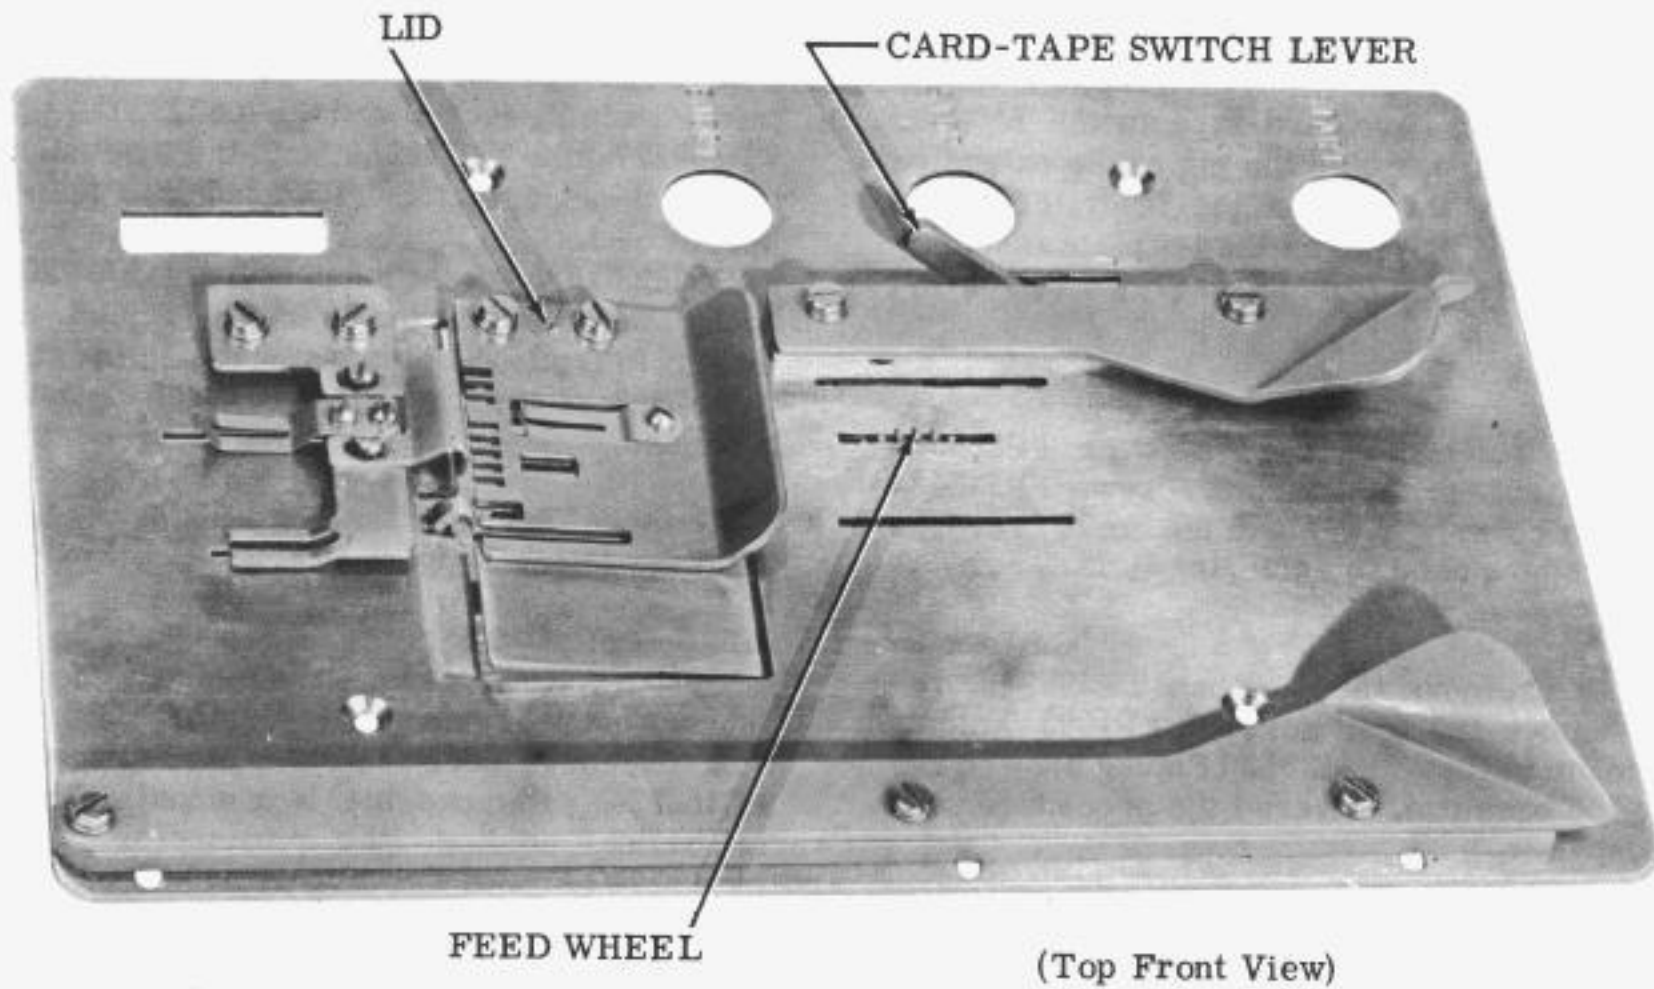
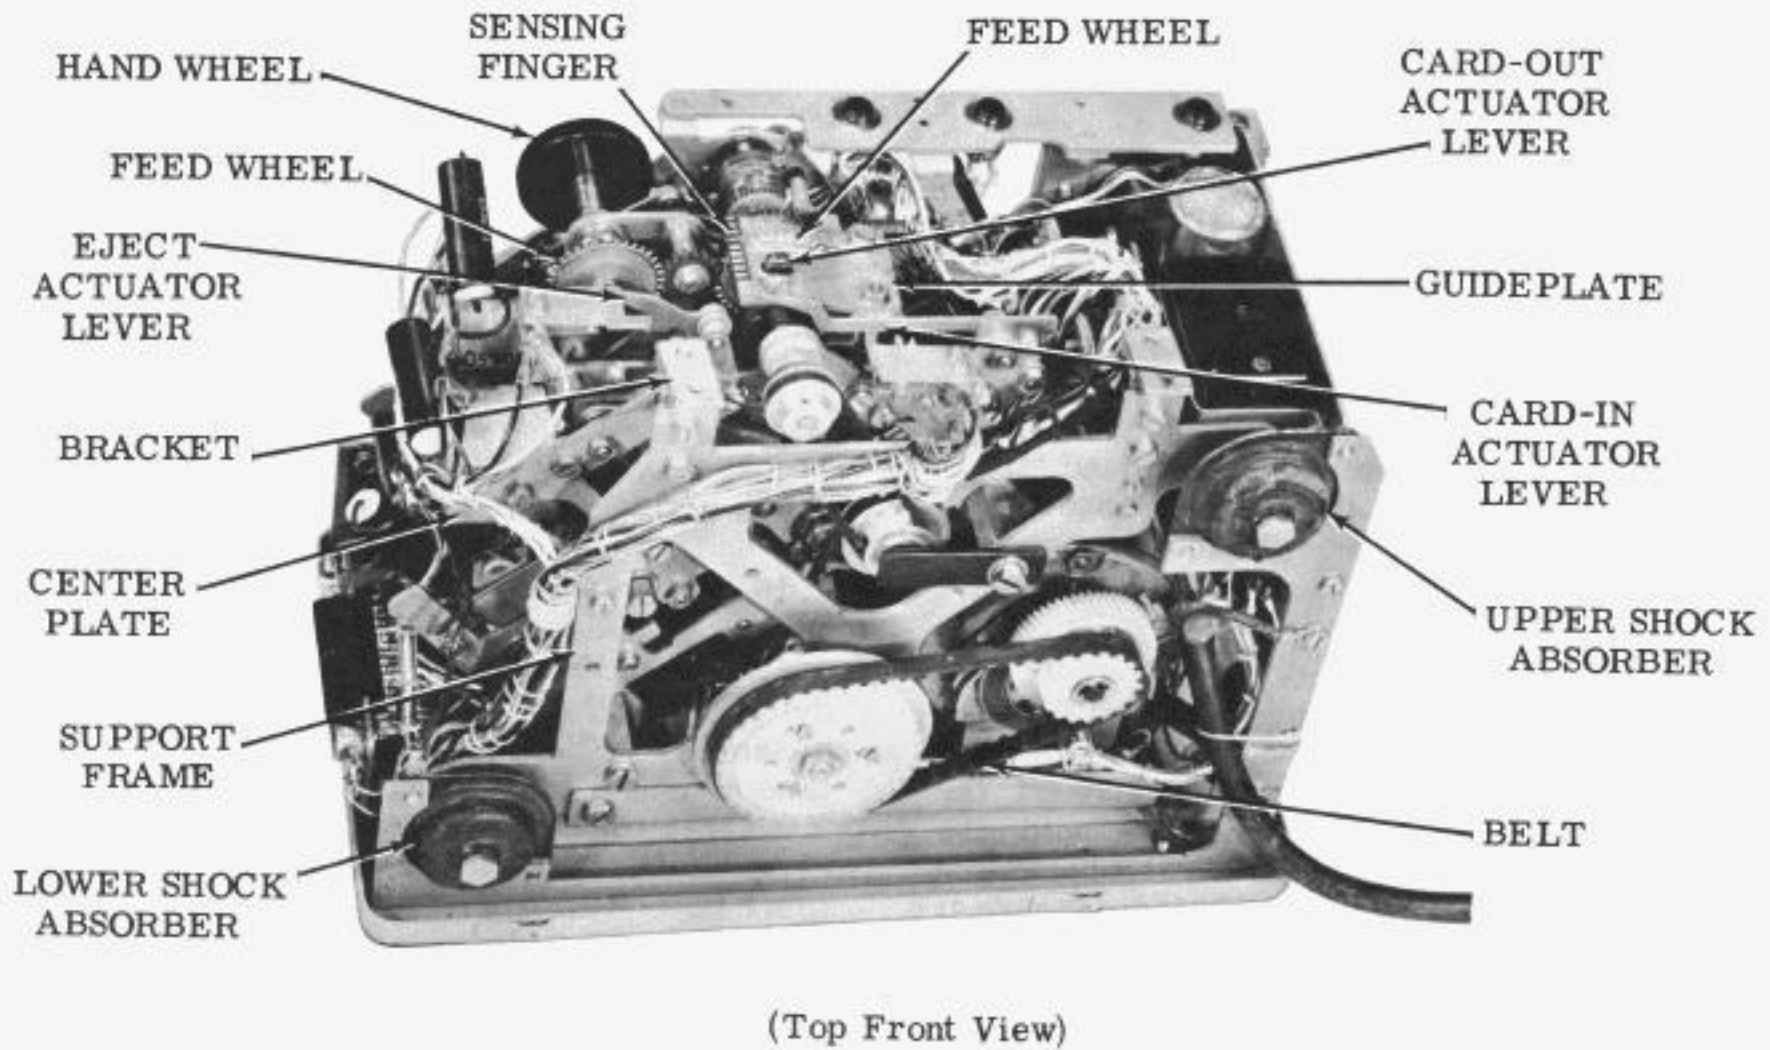

Figure 3 - Top Plate Assembly
Figure 4 - 35 Edge Punched Card Reader without Top Plate and Cover
move the top plate assembly. To replace the top plate assembly, have card-tape switch lever in the card position, guide the pin of the extension TP305069 into the slot of the lever TP305250 (Figures 3 and 5). Lower the topplate assembly into place and replace the four screws TP100759.
2.06 Remove the circuit card TP305273 and the timing belt (Figure 4). Remove the four screws TP151606, disconnecting the bars TP305234 and TP305235 (Figures 2 and 5) from front and rear of the reader assembly. Loosen the lower two and remove the upper two mounting screws TP305224 from the shock absorbers TP305246 (Figure 4). Remove the ground strap. Pivot unit upward about lower shock absorbers. To reassembly the unit, use the above procedure in exact reverse order.
2.07 To remove the guideplate TP321626 (Figure 4), take out the two screws TP151630 holding the guideplate. Lift off the guideplate. To replace the guideplate, guide the sensing fingers TP305225, the card-out actuator TP305245 and the feed wheel TP305260 (Figure 4) into their respective slots. Align the guideplate to square the row of sensing fingers with the direction of card travel. Tighten the screws TP151630, using flat washers TP8330 and lock-washers TP2191. Trip the reader clutch armature and let the sensing fingers TP305225 come up. Lower the topplate TP305324 (Figure 3) into place. Guide the pin of the extension TP305069
into the slot of the lever TP305250. Guide the feed wheels TP305260 and TP305222, the levers TP305227 and TP305239, and the extensions of the card-out actuator TP305245 into their respective slots (Figure 4). Insert the screws TP151631 through the support frames TP305232 and TP305233, into the brackets (Figure 4) and tighten to friction tightness. Tighten the screws TP152893 of the bracket TP321629 to friction tightness.
2.13 To remove the center plate TP305300 (Figure 4), follow procedure outlined in paragraph "Main Shaft Assembly" of this section. Remove the solenoid plunger pin TP144871 from the solenoid TP305308 (Figure 2). Remove the mounting screw TP310158, the solenoid, and the hand wheel TP305248 (Figure 4). Remove the retainer ring TP128357 holding the bail and link assembly TP305268. Remove the assemblies
2.14 To remove the feed wheel TP305260 (Figure 4), loosen the setscrew TP107256 of the timing pulley, remove the setscrew TP180595 in the bushing TP305259, and remove the screw TP151732 holding the drum TP305263. Pull out the shaft TP305258 and remove the clutch release TP305262, shaft drum TP305263, feed wheel TP305260, and bushing TP305259. To replace feed wheel assembly with shaft, reverse the procedure used to remove it.